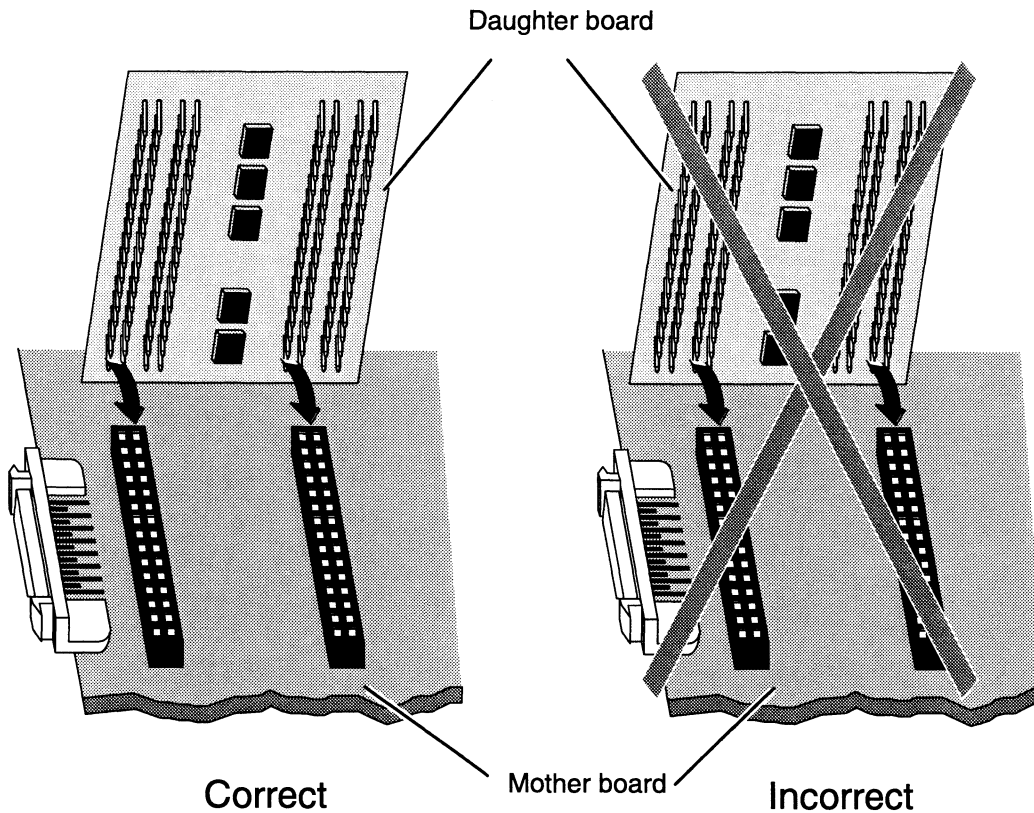

Figure 2-15 Positioning the Daughter Board for Reattachment
5. Carefully align the pins on the daughter board with the connectors on the mother board, as shown in Figure 2-15.